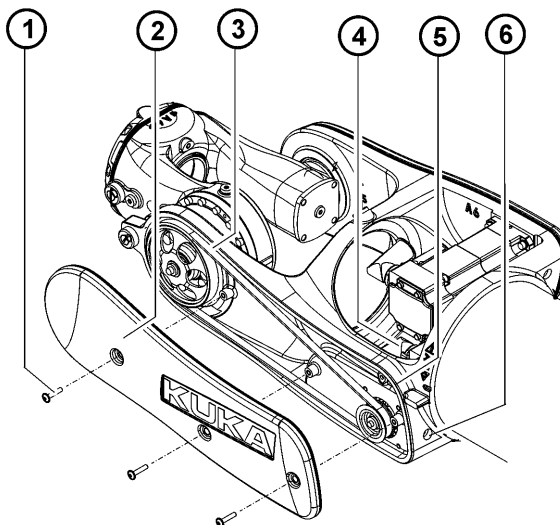

Fig. 10-2: Measuring and adjusting the toothed belt tension on axis 5
1. Remove 3 fillister head screws (>>> Fig. 10-2) and take off the cover.
3. Pluck the toothed belt (>>> Fig. 10-2) in the middle of the free length and hold the sensor at a distance of 2 to 3 mm from the vibrating toothed belt.
1. Slacken the Allen screw (>>> Fig. 10-2) and nut on the rear of motor A5.